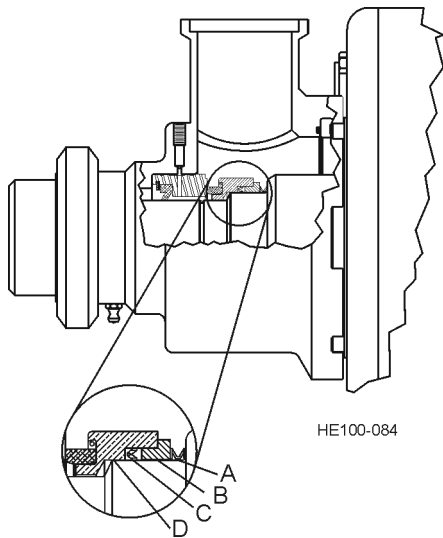

Figure 56 - Orientation of Seal Components
1. Place wavy washer spring (See Figure 56, Item A) on shaft.
2. Install seal back-up ring. (See Figure 56, Item B).
3. Install U cup seal with opening toward product side, as shown in Figure 56, Item C.
4. Place seal body (See Figure 56, Item D) on shaft, aligning slots with seal drive pins.